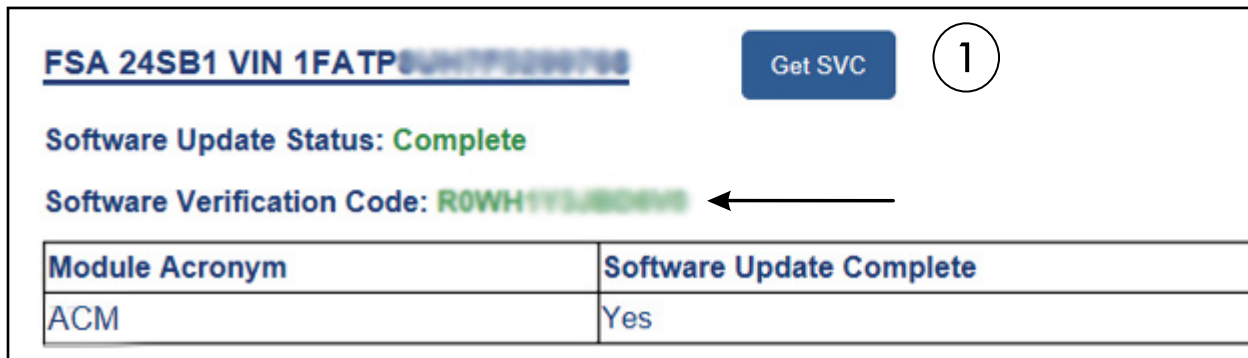

FIGURE 3
9. Does the FDRS Software Update Status display a **Complete** status? See Figure 3.